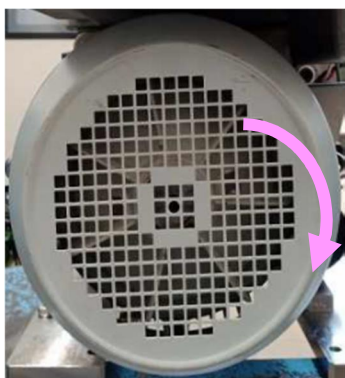

Figure 19: Direction of rotation of motor
7. Check whether the direction of rotation of the motor is correct. (Refer to "**Figure 19: Direction of rotation of motor**".)